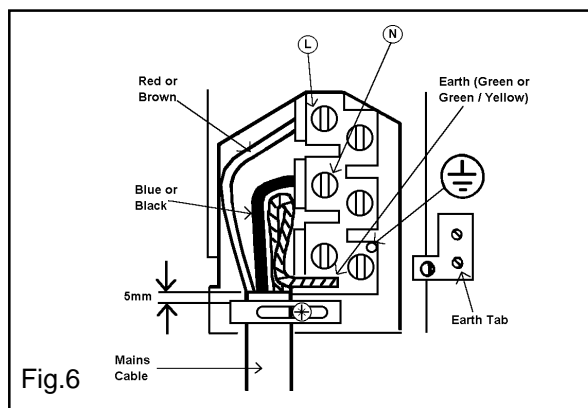

Fig.6
- Make connection as shown in Fig. 6 by proceeding as follows:-
- Clamp the mains cable securely ensuring 5mm of the outer insulation is inside the terminal block and that the wires are not taught but not so slack as to cause any fouling. See Fig. 6.